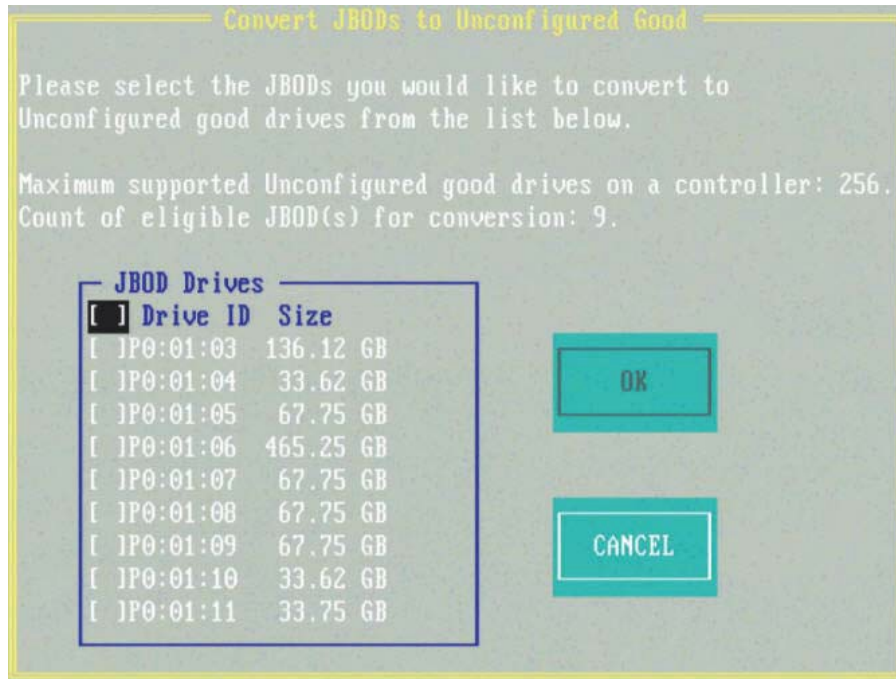

Figure 55. RCU – convert JBOD drives to unconfigured good drives
2. Navigate to **Make Unconfigured Good** and press <Enter>. The Convert JBOD to Unconfigured Good dialog appears, which shows all JBODs available in the system (Figure 55).